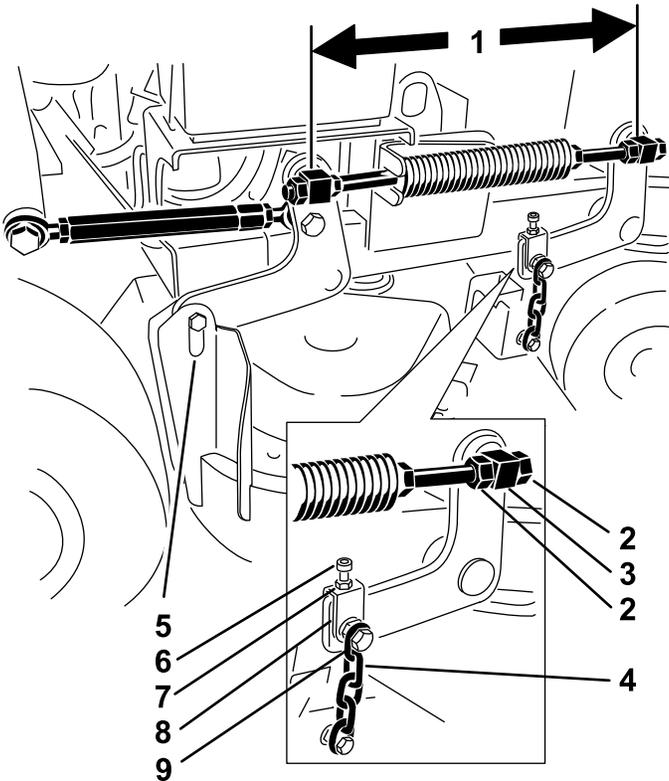

Figure 78
1. Check the distance between the swivels, measuring at the center of the swivels (center-to-center length) on each threaded rod (Figure 78).
- Loosen the jam nuts at the **front** swivel (Figure 78).
- Tighten the jam nuts at the **front** swivel (Figure 78).
- Loosen the jam nuts at the right and left front swivels (Figure 78).
- Tighten the jam nuts at the right and left front swivels (Figure 78).
4. Loosen the jam nuts at the left, front swivel (Figure 78).
6. Tighten the jam nuts at the left front swivel (Figure 78).
5. Loosen the upper chain bolts (Figure 78).
6. Loosen the jam nuts on each yoke (Figure 78).
8. Tighten the jam nuts and upper chain bolts (Figure 78).